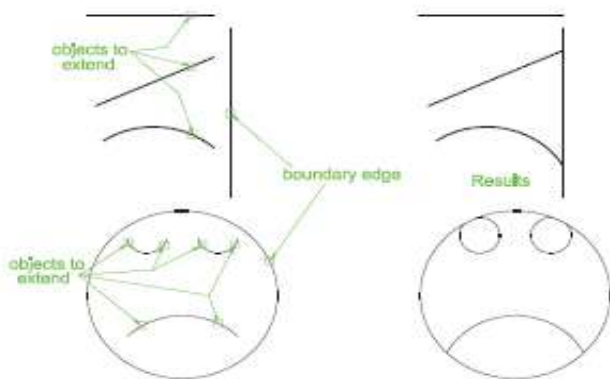

Fig. 5.40 Examples – Extend
Examples – **Extend** (Fig. 5.40)
1. Construct planes and a circle as shown in the left-hand drawings of Fig. 5.40 .